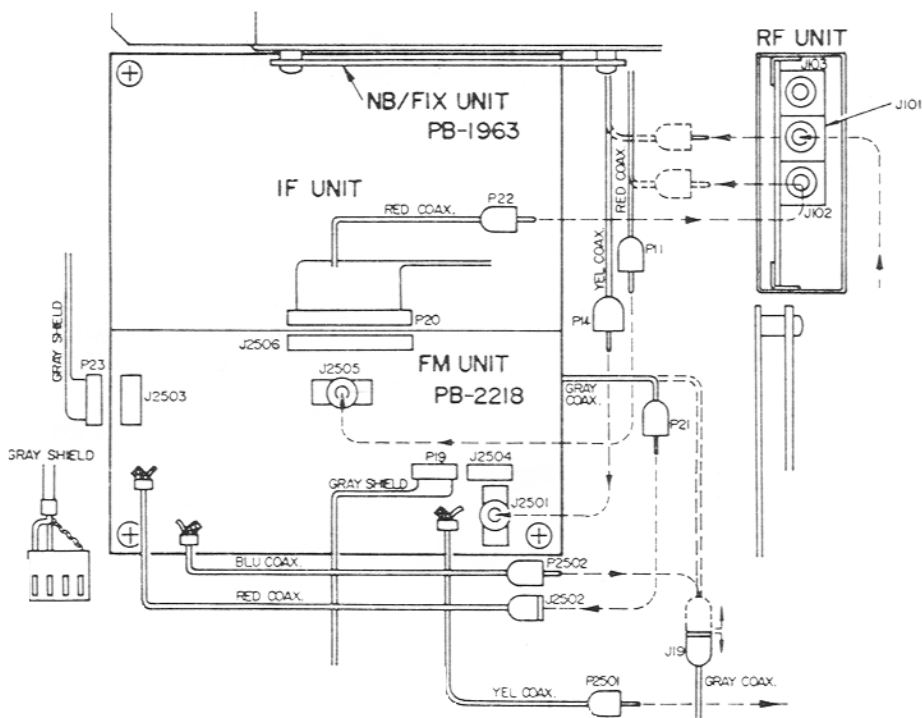

Figure 15
5. Connect P₂₁ to J₂₅₀₂ (red shielded cable) from the FM unit, and J₁₉ to P₂₅₀₂ (blue shielded cable), as shown in Figure 15.
7. Unplug P₁₄ (yellow shielded cable) from J₁₀₁ on the RF unit, and connect it to J₁₀₁ on the FM unit. Then connect P₂₅₀₁ (yellow shielded cable) to J₁₀₁, by referring to Figure 15.
8. On the RF unit, unplug P₁₁ (red shielded cable) from J₁₀₂, and connect it to J₂₅₀₅ on the FM unit. Connect P₂₅₀₁ (red shielded cable) from the FM unit to J₁₀₂ on the RF unit, as shown in Figure 15.